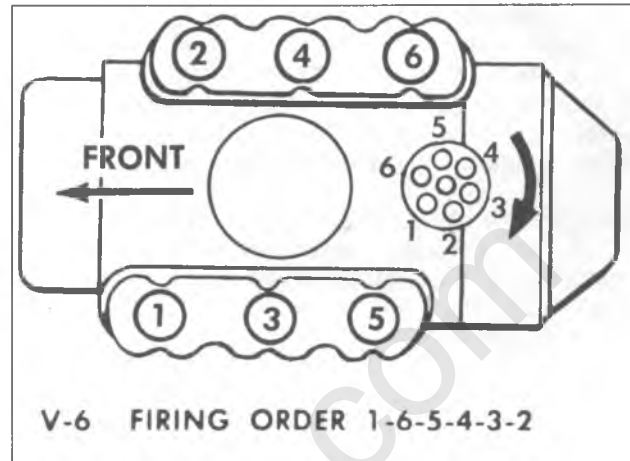

Figure 7—Cylinder Numbers and Spark Plug Wire Locations on V6 Engine
3. Inspect distributor cap for burned wire sockets, cracks, and for erosion at terminals inside cap. Replace the distributor cap if it is not in good condition. When installing spark plug wires, refer to figure 7 which shows cylinder numbering, firing order and distributor cap wire socket numbering on V6 engines.